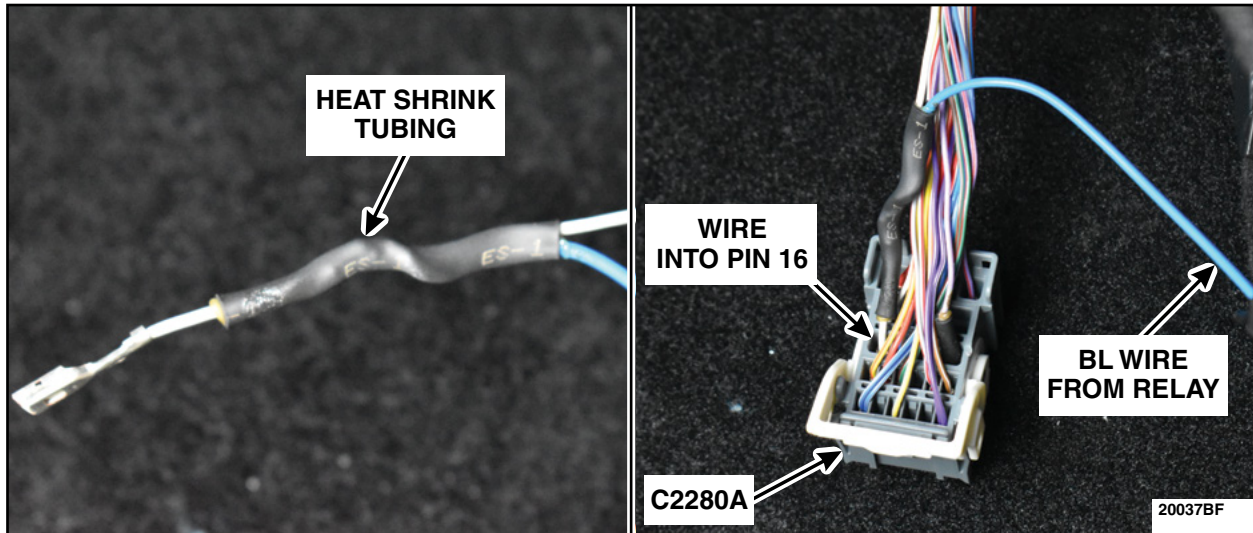

FIGURE 30
48. Apply heat to the heat shrink tubing to seal the inline splice. Reinstall the wire into pin 16 of C2280A. See Figure 30. Proceed to Step 50.